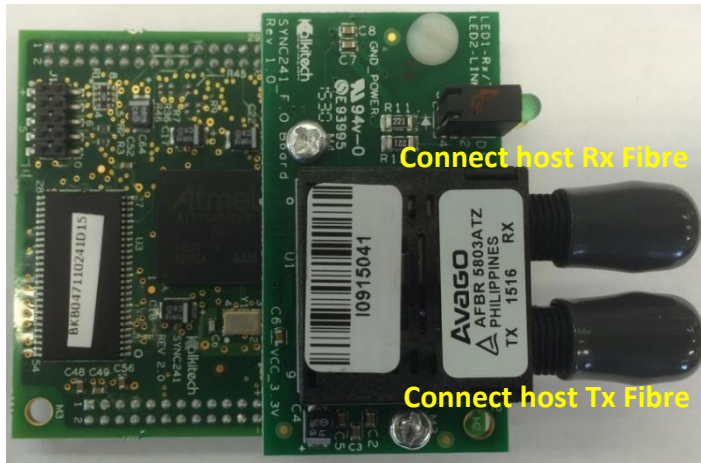

Figure 5-33: Fibre optic connections
To connect to the Intellix™ BMT 330 serial fibre optic module as shown in Figure 5-33, the cable must enter the cabinet through one of the available cable glands and be routed to the communication module as follows:
- Then connect the fibre optic wire coming from the Rx connector of the host fibre optic module to the Tx connector of the Intellix™ BMT 330 serial fibre optic module. See Figure 5-33 below.